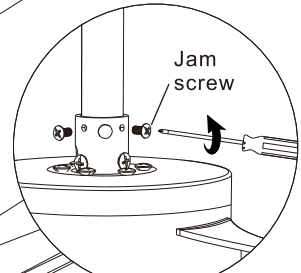

Figure 3.4
- Secure the down rod in place by tightening the jam screws. Pull the decorative cover downwards and it will be flush with the motor housing. (Figure 3.4)